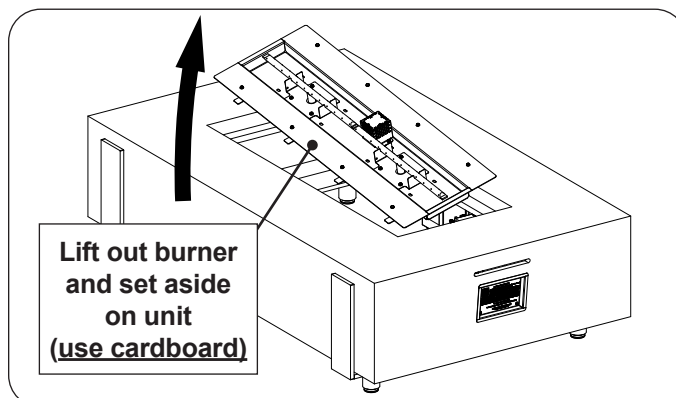

Fig. 30-4 Gain access to interior
6. Carefully lift out the burner just enough to set it off to the side (see Fig. 30-4). Rest the burner on a piece of cardboard or similar to protect the top piece.